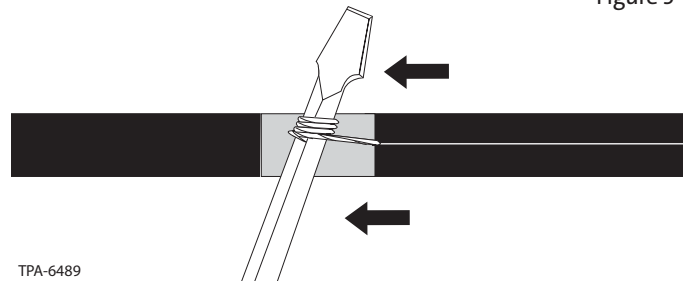

Figure 6
Step 7: Pull the rip cord through the sheath to the wrap of tape (Figure 6). Cut the rip cord flush at the tape mark. Repeat this step with the other rip cord.